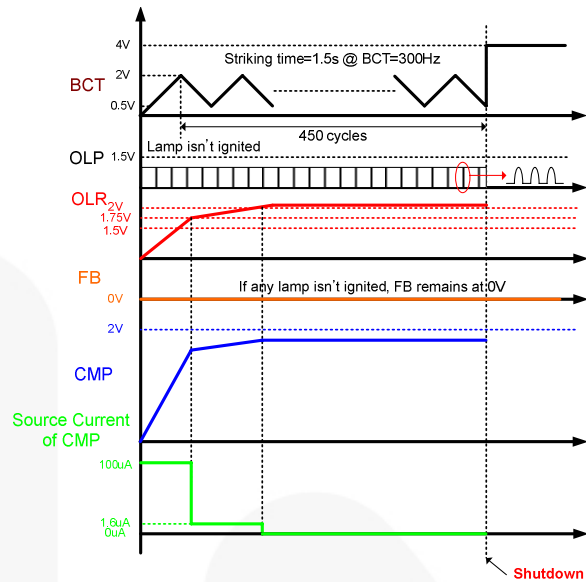
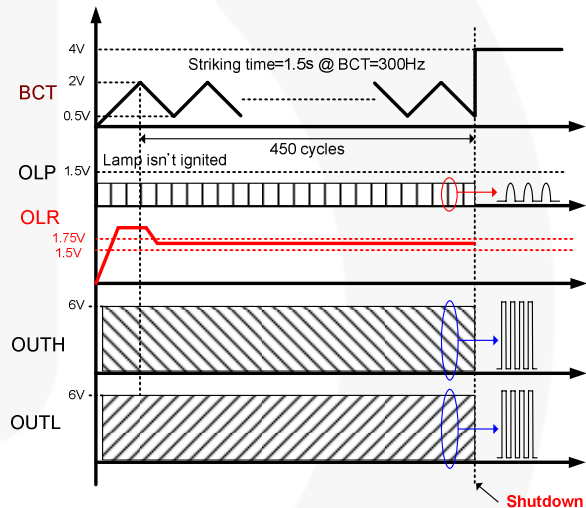

Figure 37. Open-Lamp Regulation in Striking Mode
Figure 38. Open-Lamp Regulation in Striking Mode
**Open-Lamp Regulation:** When a voltage higher than 2V is applied to the OLR pin, the IC enters regulation mode and controls CMP voltage. The IC limits the lamp voltage by decreasing CMP voltage. The IC limits the lamp voltage by decreasing CMP voltage. If the OLR voltage is higher than 1.75V, CMP source current decreases from 100μA to 1.6μA. If the OLR voltage reaches at 2V, CMP source current decreases to 0μA, so CMP voltage remains constant and the lamp voltage also remains constant, as shown in Figure 37. At the same time, the counter based on BCT time starts counting 450 cycles and 32 cycles at striking mode and normal mode, respectively, then the IC enters shutdown, as shown in Figure 38 and Figure 39.